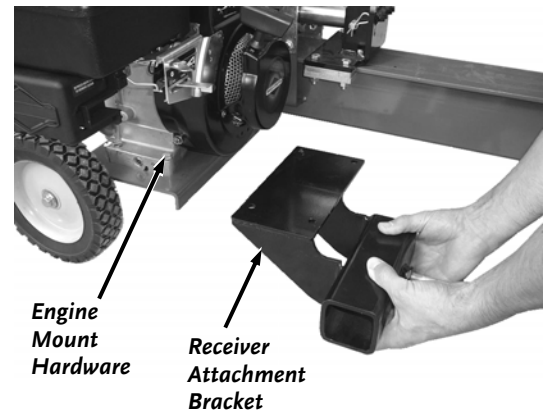

Figure 37
2. Unpack all parts from the shipping box and place the Receiver Attachment Bracket in the orientation shown (**Figure 37**). (the bracket will be mounted under the frame of the Wood Splitter using the same bolts that hold the engine in place.)